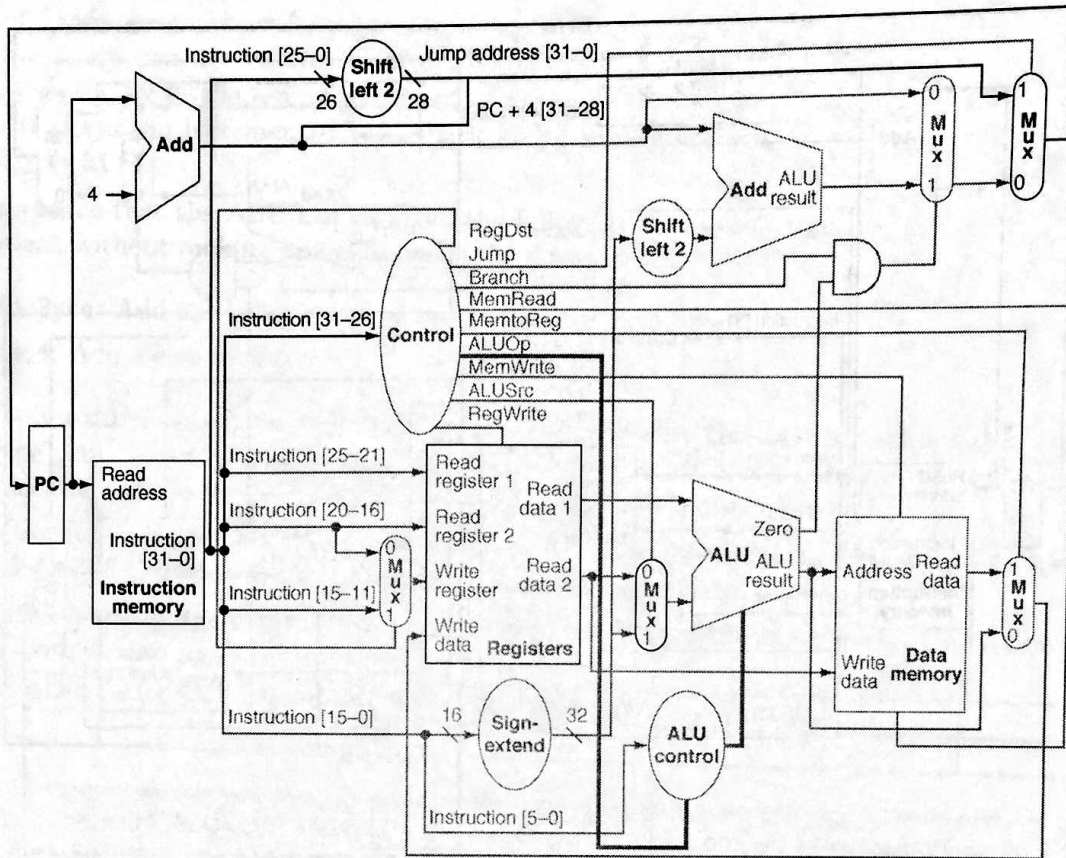

Figure 2: Single-cycle, non-pipelined RISC processor
- (a) Design this instruction. Specifically, (1) state whether this instruction would be an “R-type”, an “I-type”, or a “J-type”, then (2) show how each of the bits in the instruction is allocated (which are used for the op-code, which specify immediate values, etc.).
- (b) Make any necessary additions (control lines, muxes, etc.) to Figure 2 below. To be awarded full credit, you must make the fewest changes possible.